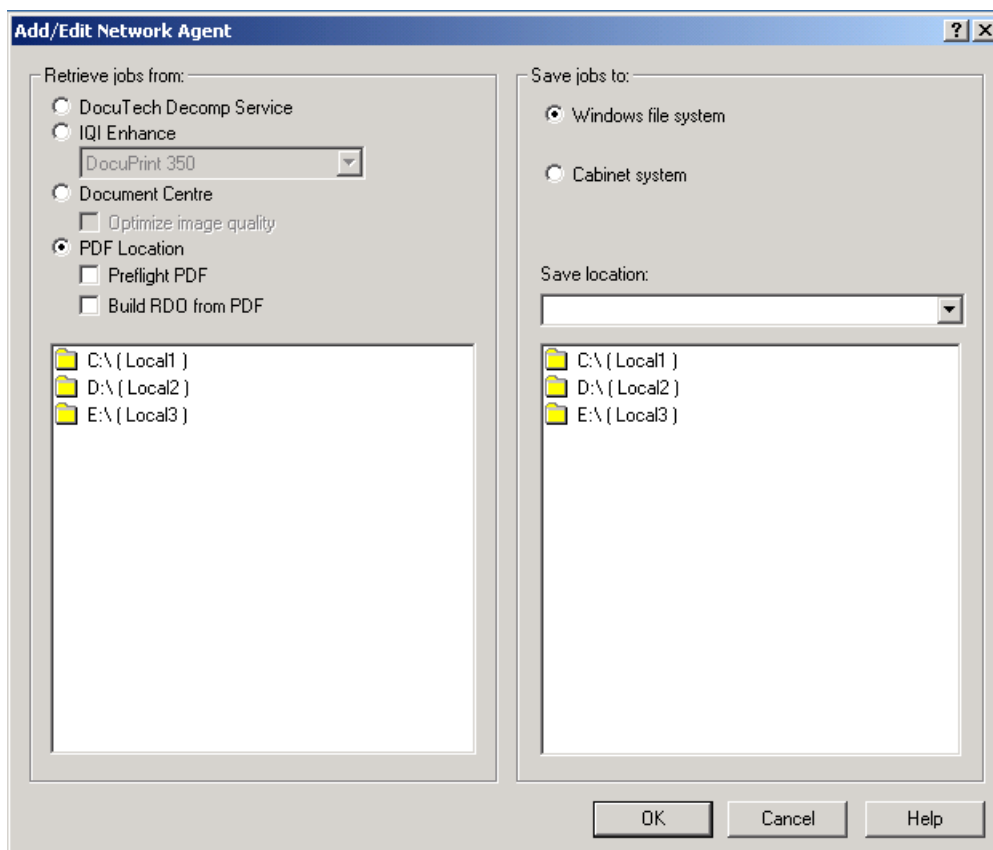

Figure 9-6. Add/Edit Network Agent dialog box
5. Select [Add]. The Add/Edit Network Agent dialog box opens. See Figure 9-6.